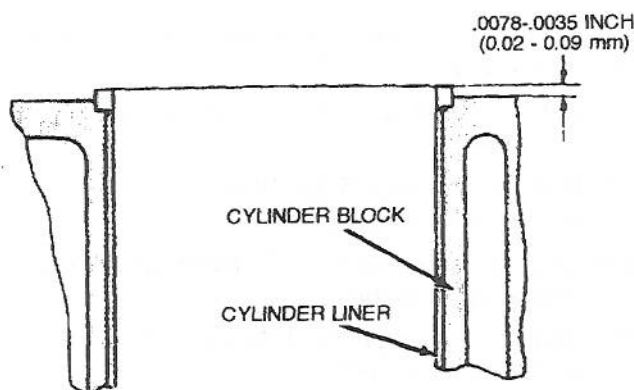

Figure 5-70. Cylinder Liner Protrusion Measurement
- (6) Measure protrusion of cylinder liner flange as shown in figure 5-70, and compare to values in table 6-1 for minimum, maximum and variation among cylinders. Any liner that is beyond the limits must be replaced.